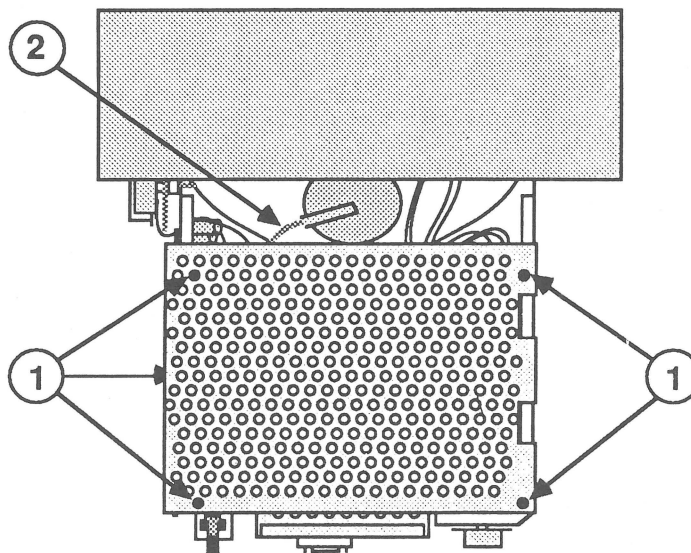

FIGURE 3
2. Remove the five screws (Figure 3, #1) that hold the shield in place.
3. Lift the shield off the chassis; then gently pull and twist the shield to release the anode wire (Figure 3, #2) from the cable clamp. Make sure you do not touch the anode wire.
2. Replace the five Phillips screws (Figure 3, #1).
3. Replace the anode wire (Figure 3, #2) in the cable clamp on the shield.